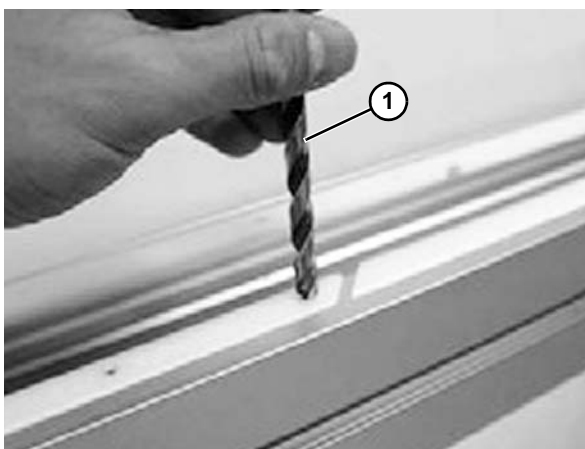

Figure 38
2. Use a bigger drill bit or countersink bit (**Figure 38, item 1**) to deburr and countersink the holes. Also make sure that there are no metal filings left underneath the slide rail.